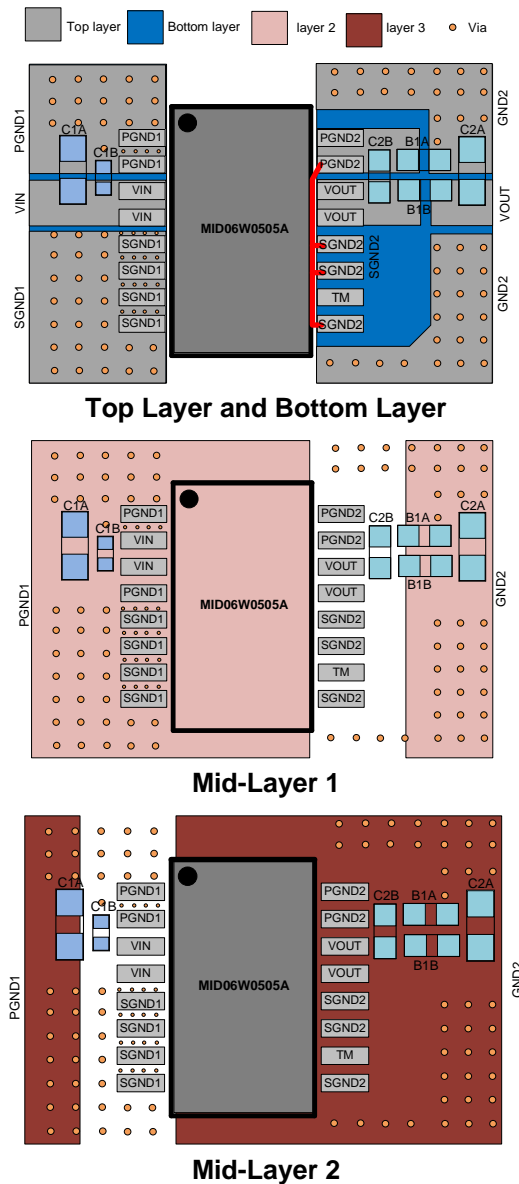

**Figure 2: Recommended EMI Schematic**
8) See Figure 2 on page 9 and Figure 3 on page 10 for details on the EMI circuit and PCB layout.
Aside from the two PCB layout techniques described above, a pair of ferrite beads are required to form a CLC structure filter (see Figure 2). Place this filter as close to VOUT and PGND2 as possible. The capacitor closest to the IC (C2B) should be  $\geq 4.7\mu\text{F}$  to ensure a stable output. Do not place large copper areas on the secondary side pins, as this can increase switching noise and EMI. Connect SGND2 and PGND2 using a thin trace.